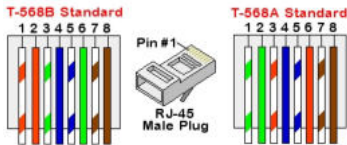

Figure 19: Standard cable wiring
- c. Insert the eight wires into an RJ45 connector (see Figure 19).